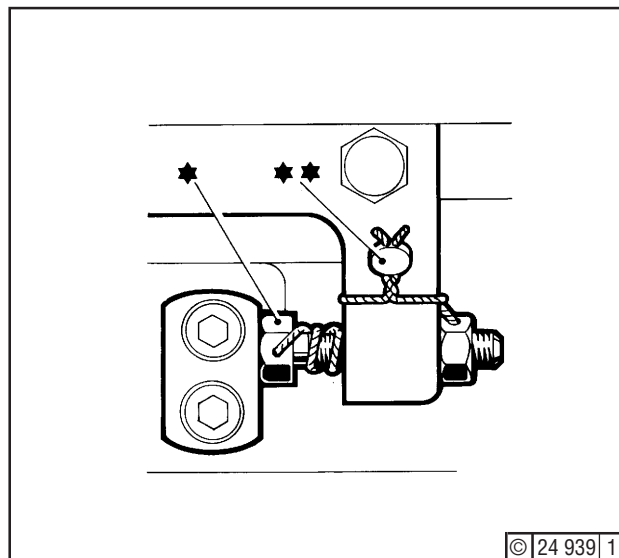

Fig. 16
13. Check that linkage abuts at stop screw (*) - Fig. 16 - when pushed to maximum load (point A13).